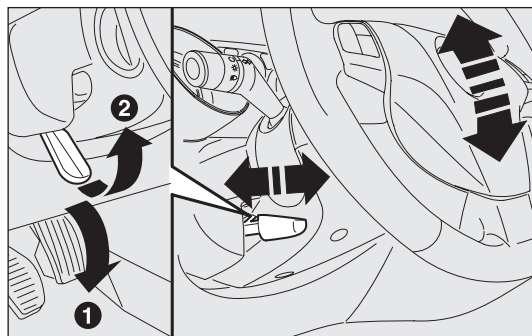

fig. 24
- release lever A-fig. 24 by pushing it forwards (position 1);